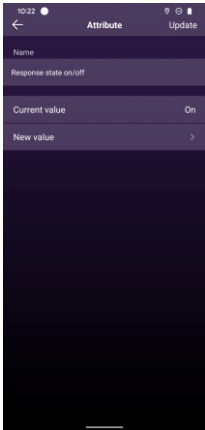
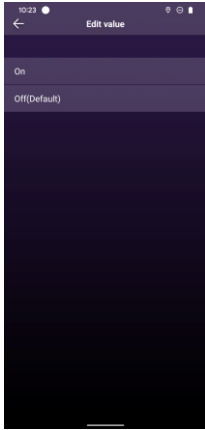

Figure 27
Figure 28
17. The attribute **“Response state on/off”** is to enable or disable sensor state report. Tap it to enter setting interface, available setting range is **On & Off**, On means state report enabled, Off means state report disabled, factory default is Off. Once set a new value, tap **“Update”** button at upper right corner to save the setting (as shown in **Figure 27 & Figure 28**).